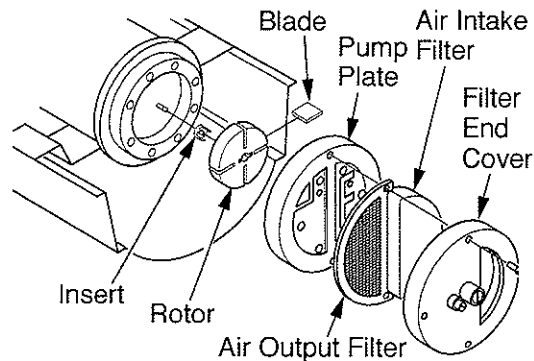

Figure 30 - Rotor Location, 40/50/55/60/70 Models
2. Remove filter end cover screws using 5/16" nut driver (see Figure 30 or 31).
6. Remove rotor, insert, and blades (see Figure 30 or 31).